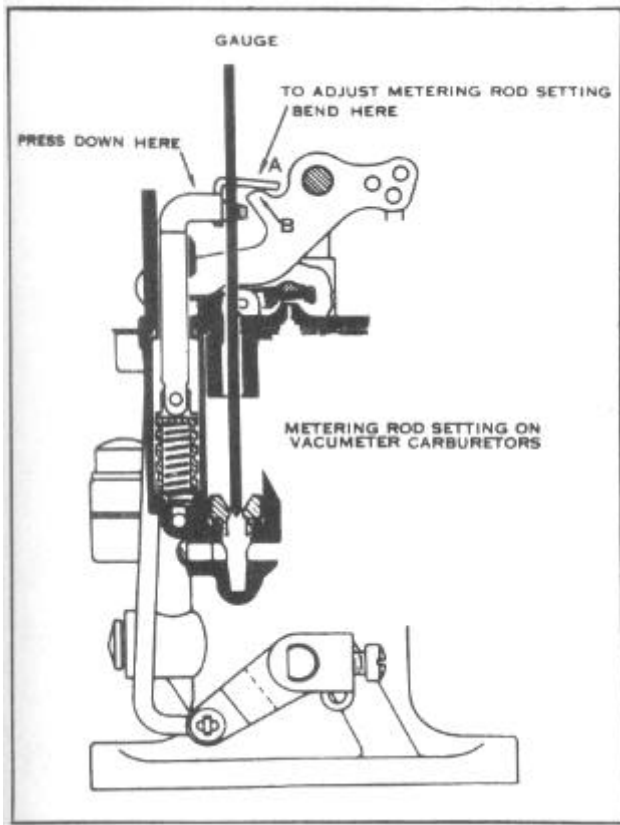

FIGURE 7
4. Insert metering rod gauge, J-1265 (Carter No. T-109-102). Hold gauge vertical and be sure gauge is seated in metering rod jet, Figure 7.